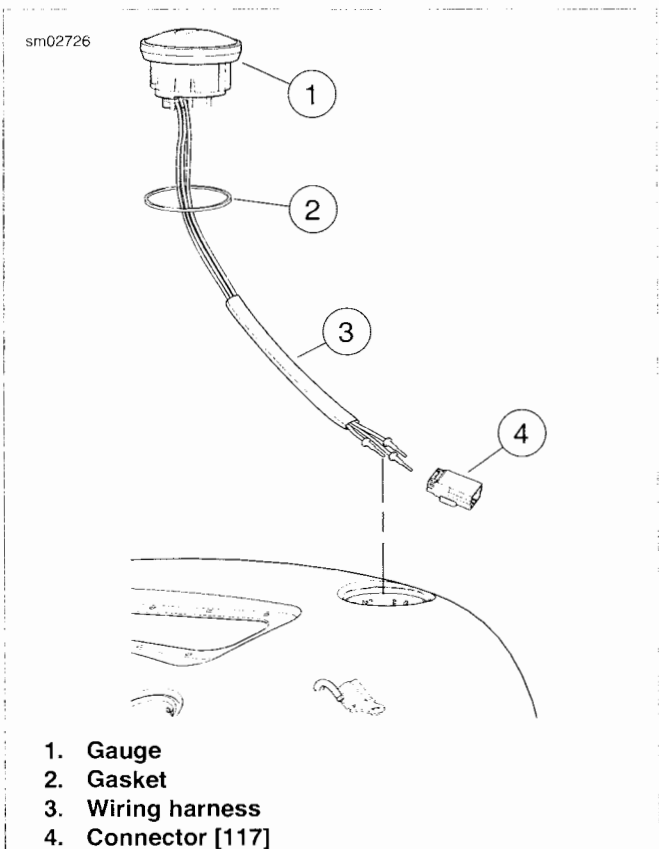
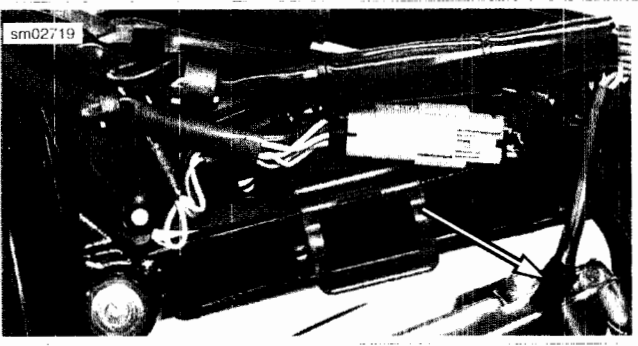

Figure 7-64. Fuel Gauge
Figure 7-65. Fuel Gauge Connector [117] Location
- See Figure 7-64. The fuel gauge is mounted in the left fuel tank cap. Remove by gently pulling upward. Do not twist.
- Three wires attach to the bottom of the gauge (1).
4. See Figure 7-65. Disconnect connector [117] and remove terminals. See B.1 CONNECTORS.
6. See Figure 7-64. Pull up on gauge (1). Remove gauge, gasket (2) and wiring from fuel tank. Discard gasket.
1. See Figure 7-64. Install wiring harness (3) through **new** gasket (2).
3. While gently pulling on wiring harness, install gauge (1) and gasket by carefully moving gauge back and forth while pushing down at the same time.
4. See Figure 7-65. Install wiring into connector [117]. Mate connector halves.